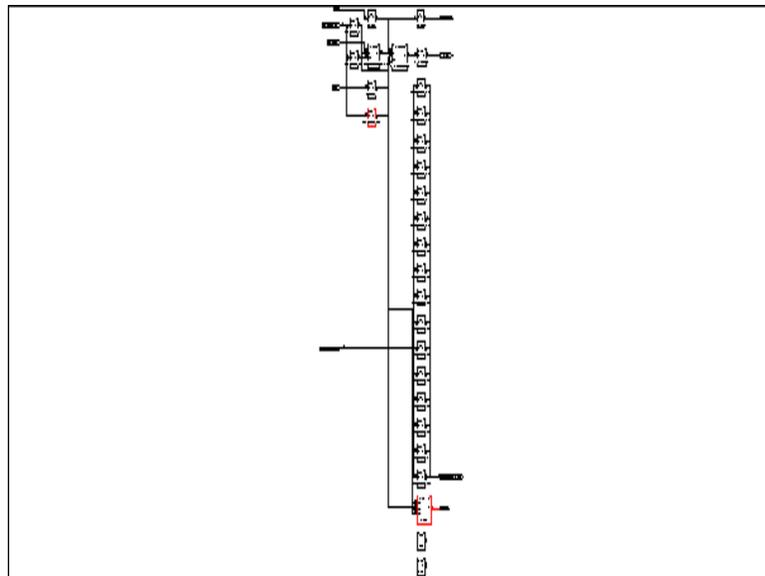

Figure 10: Selected Path Highlighted in Synplify Technology View
7. Click on the path or instance to cross probe. The corresponding path or instance should be highlighted in the Technology View window, as shown in Figure 10.